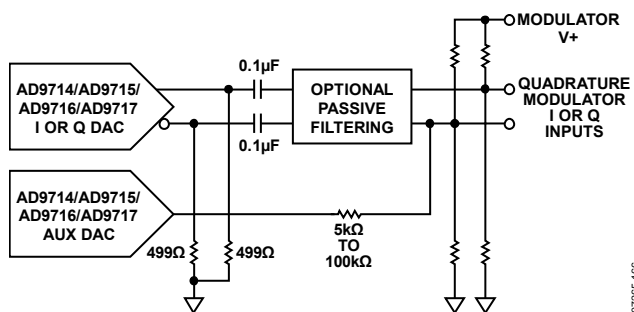
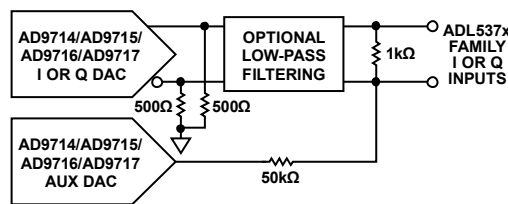

Figure 108. Typical Use of Auxiliary DACs and External Components for Coupling to Quadrature Modulators
Figure 109. Simplified DC Coupling to Quadrature Modulator ADL537x Family or Equivalent Is Enabled By Using Internal Components
The auxiliary DACs can be used for local oscillator (LO) cancellation when the DAC output is followed by a quadrature modulator. This LO feedthrough is caused by the input referred dc offset voltage of the quadrature modulator (and the DAC output offset voltage mismatch) and can degrade system performance. Typical DAC-to-quadrature modulator interfaces are shown in Figure 108 and Figure 109, with the series resistor value chosen to give an appropriate adjustment range. Figure 108 also shows external load resistors in use. Often, the input common-mode voltage for the modulator is much higher than the output compliance range of the DAC, so that ac coupling or a dc level shift is necessary. If the required common-mode input voltage on the quadrature modulator matches that of the DAC, the dc blocking capacitors in Figure 108 can be removed and the on-chip resistors can be connected.
Figure 109 shows a greatly simplified circuit that takes full advantage of the internal components supplied in the DAC. A low-pass or band-pass passive filter is recommended when spurious signals from the DAC (distortion and DAC images) at the quadrature modulator inputs can affect the system performance. In the example shown in Figure 109, the filter must be able to pass dc to properly bias the modulator. Placing the filter at the location shown in Figure 108 and Figure 109 allows easy design of the filter because the source and load impedances can easily be designed close to 500 Ω for a 2 mA full-scale output. Once the resistance at the modulator inputs is known, the user can easily look up the range of input offsets that may be encountered and compute a value for the series resistor on the AUXDAC output.